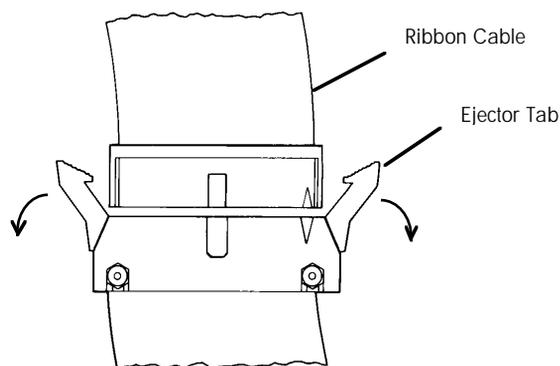

Figure 5-8 Connecting the Ribbon Cable
10. Connect the ribbon cable to the front panel PC board by inserting the cable connector into the mating connector on the PC board (Figure 5-8).
Figure 5-8 illustrates the ribbon cable positioning.
8. Reconnect the flat ribbon cable to the front panel PC board by inserting the cable connector into the mating connector on the PC board (Figure 5-8).